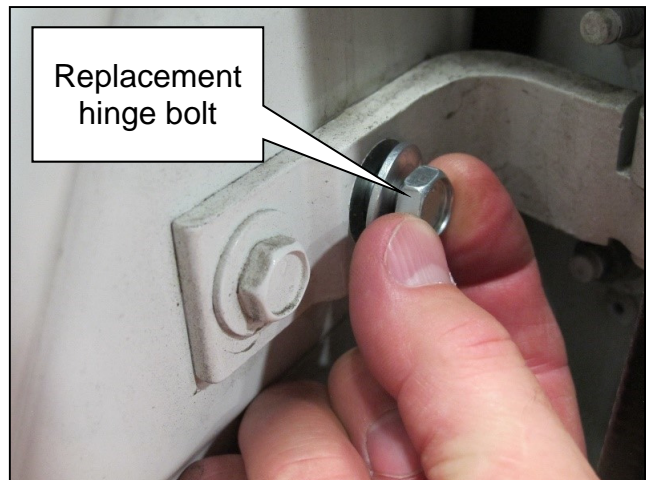

Figure 4
- Thread the hinge bolt in by hand to prevent cross threading the hinge bolt (Figure 4).